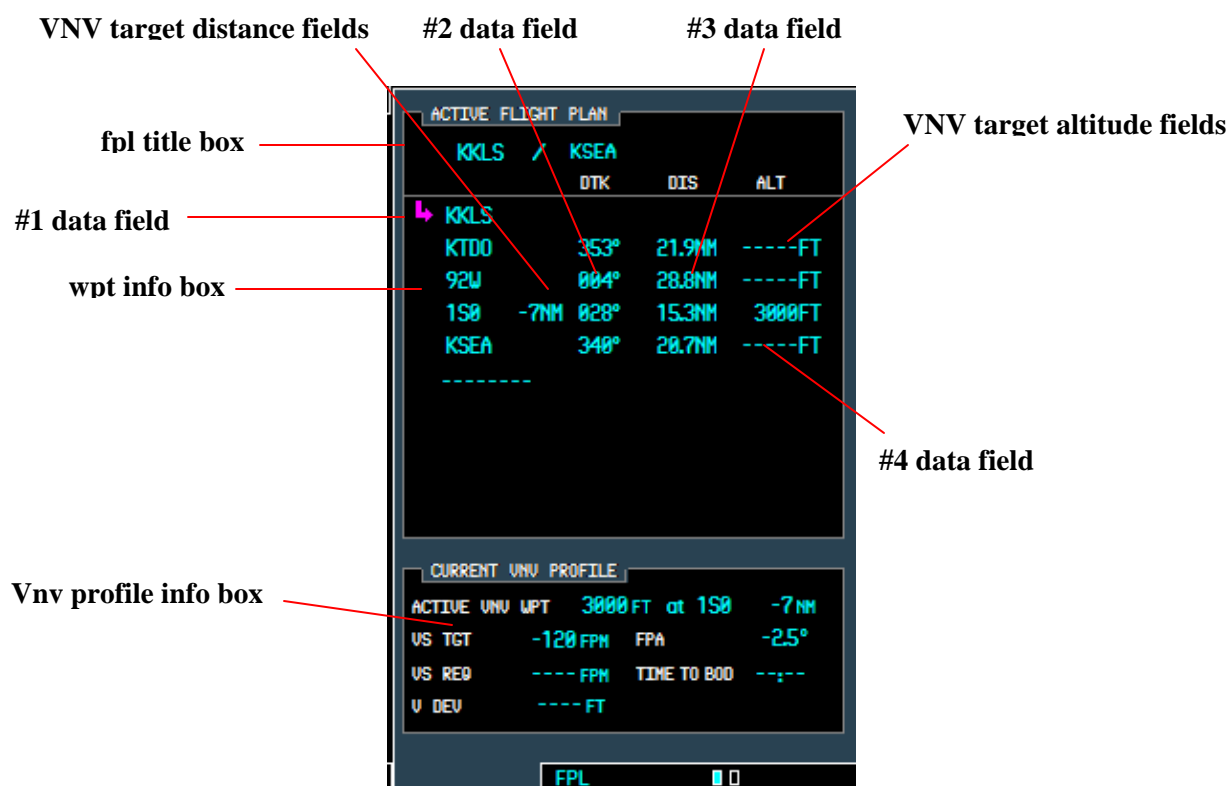

Figure 7.3
The narrow view of the active flight plan page is on by default (Figure 7.3).
When the FPL Page is opened, a list of waypoints, or nearest facility if no wpts have been entered, and a dashed line below the list are displayed (Figures 7.3 and 7.4). Waypoint entry is done through a Waypoint Information popup window and can be entered in 4 ways. Waypoints can be added to any location in the flight plan; they are added in order directly above a highlighted wpt, or directly above the dashed line if highlighted. Waypoints can also be deleted from this page. Waypoint entry and editing is performed in the same manner from both the narrow and wide view displays.
1. click on the FPL button to display the FPL page window (Figure 7.3).
The edit options available on the fs2x G1000 MFD active flight plan window are displayed in bright cyan in figure 7.3. The darkened options are not currently available; however they are included for future consideration. The available options are discussed below in order from top to bottom.